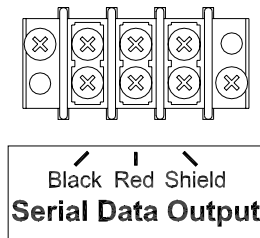

Figure 10 Serial Data Output Wiring Diagram
3. Connect the cable to the terminal block labeled **Serial Data Output** according to figure 10.